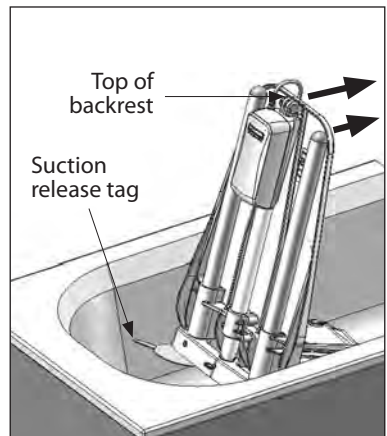

Figure 4
- While holding the top of the backrest, pull the suction release tags on the rear suction feet then tilt the bath lift forward (**fig 4**);
- iv) Unfold the two side flaps so they rest against the sides of the bath/tub. (Side flaps ease transfer on and off the bath lift and also prevent finger entrapment.) If side flap protectors are required and have been fitted to integral bath/tub handles, ensure the two side flaps are resting substantially on them. If the side flaps are still likely to catch under handles, move the side flap protectors as far as possible along the handles until the side flaps are over them **(see fig 4)**. If this still does not improve the flaps' position on the side flap protectors, move the bath lift slightly forward in the bath/tub. Alternatively, a side flap protector extension kit is available (see section 15, "Accessories").